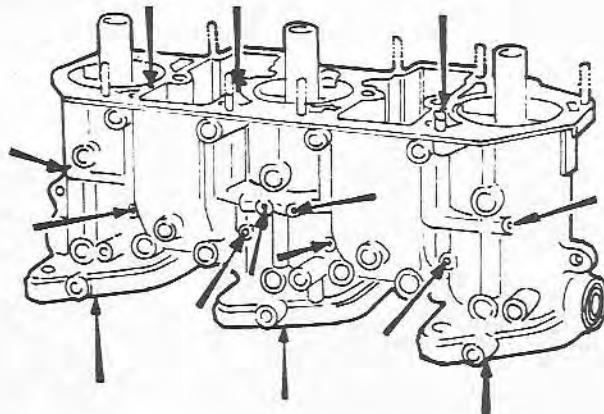

Fig. 8.15 Lead plug location points (Sec 7)
- 7 Check the internal channels for blockage by injecting fuel from a syringe and observing whether it emerges freely from the particular channel being tested. If any are blocked, it will be necessary to drill out the lead plugs as shown in Fig. 8.15, 8.16 and 8.17.